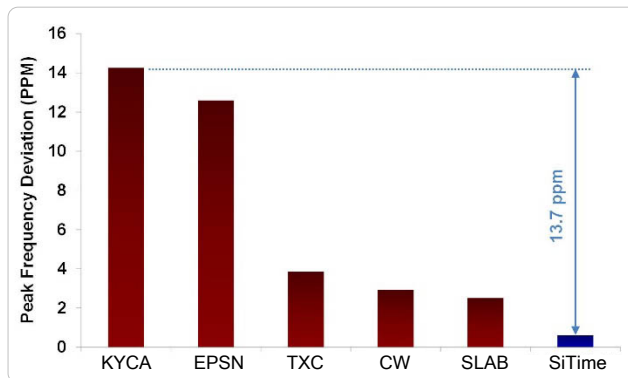

Figure 6. Shock Robustness[6]
**SiT9121** 1 MHz – 220 MHz High Performance Differential Oscillator**Termination Diagrams (continued)****LVDS****Figure 6. LVDS Single Termination (Load Terminated)**
SiTime’s oscillators can withstand at least 50,000 g shock. They all maintain their electrical performance in operation during shock events. A comparison with quartz devices is shown in Figure 6.